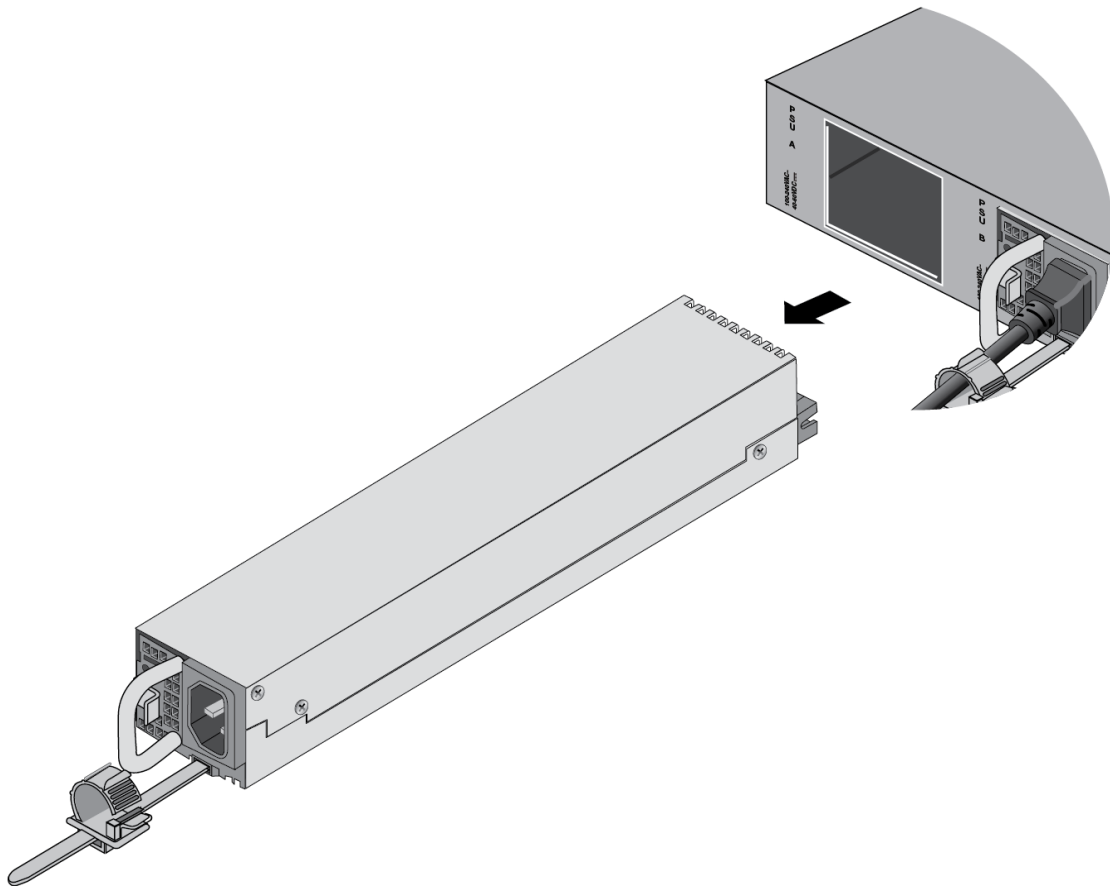

Figure 133. Removing a Power Supply
5. Carefully slide the power supply from the switch. Refer to Figure 133 on page 192.